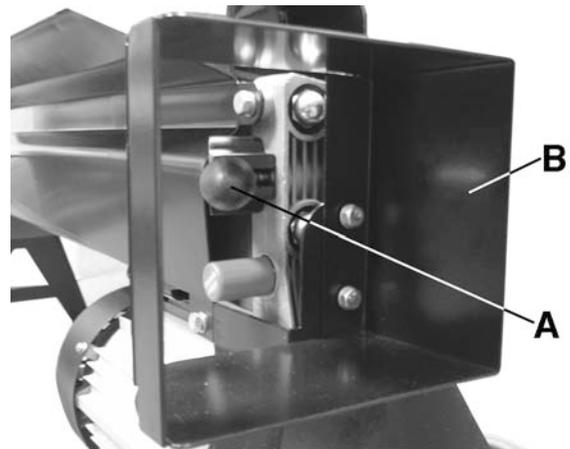

FIGURE 6
Screw the rubber knob (A) Fig.6 onto the hydraulic control lever shaft. Use two washers, spring washers and hex. bolts to fasten the safety guard (B) on the supporting bracket to protect the hydraulic control lever.